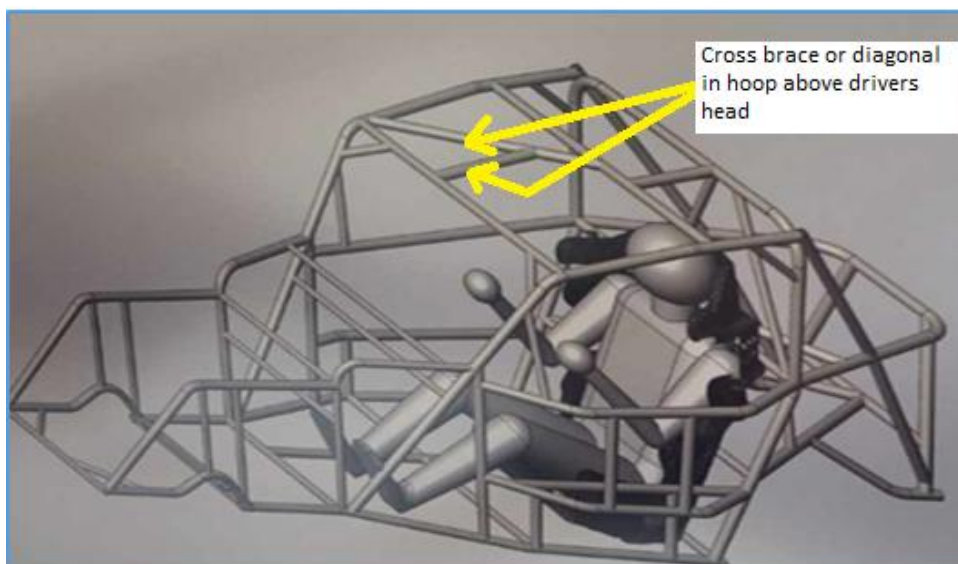

Figure 16
- 24.16** Cross-brace or diagonal tube is MANDATORY in the roof area. The cross-brace tube must join the front hoop and the hoop over driver's head without impeding the exit hatch area. This is to minimise the size of the roof opening and help protect the driver from impact in the roof area (*Figure 16*).